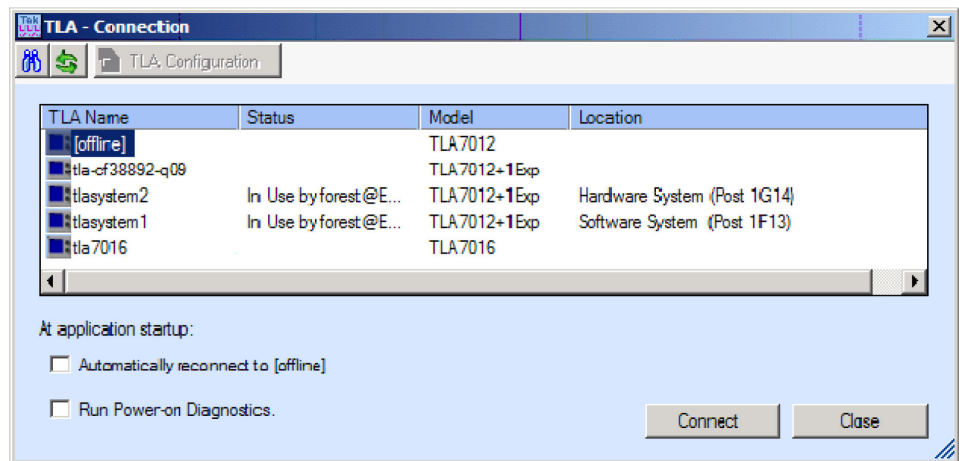

Figure 26: TLA Connection dialog box
1. Start the TLA application by double-clicking the TLA Application icon on the PC. The TLA Connection dialog box appears. (See Figure 26.)